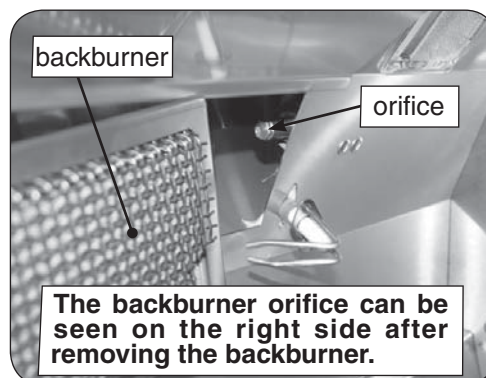

Fig. 28-4 Remove backburner
3. Carefully pull the left end of the backburner forward until the burner can be moved to the left pulling it free from the orifice located on the right side (see Fig. 28-4).